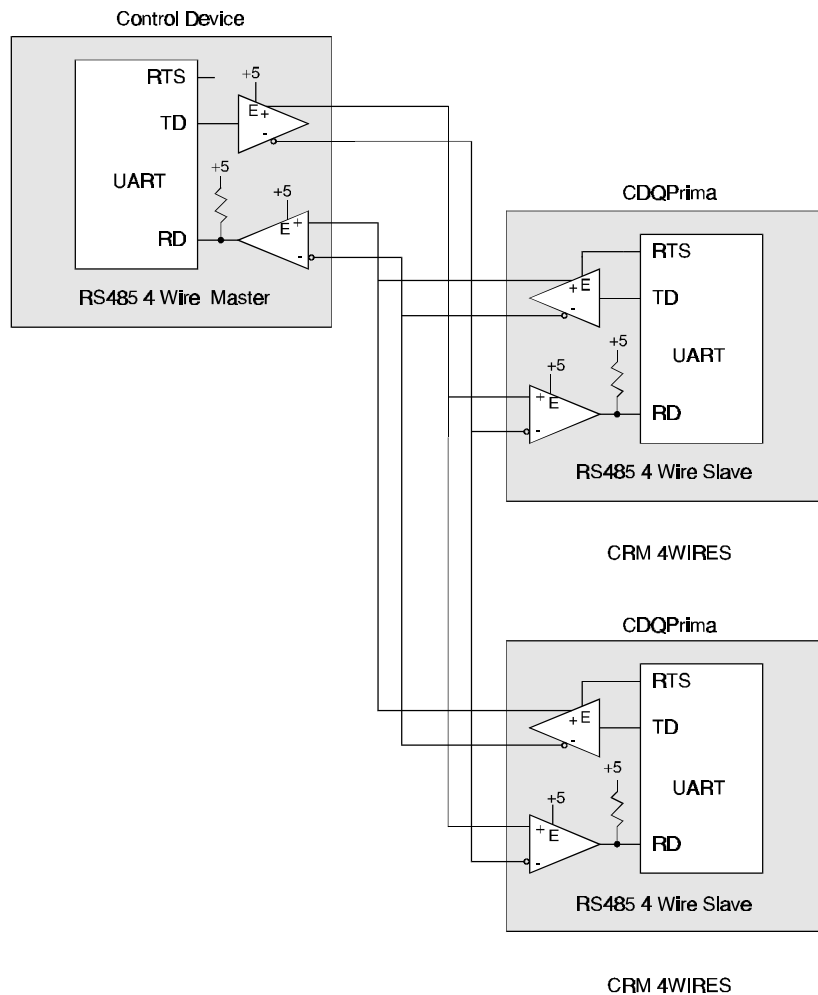

Figure 5-3 RS485 four wire master to four wire slaves
A four wire master device may be connected to a number of four wire slave devices, as shown in Fig. 5-3. In this case, the four wire slaves are always listening to the data transmitted by the four wire master controller. The transmitter (TD) of each slave is disconnected from the bus in normal operation and is enabled only when the four-wire slave has received a message to which it must respond. To respond, the slave must raise the RTS line high, transmit the response and then lower the RTS line. This master-to-slave communication assumes that each message from the master is tagged with an ID field so that only the proper slave may respond. This configuration is therefore an *Addressed* communications bus. If two slaves respond at the same time, the message received by the master would be garbled.